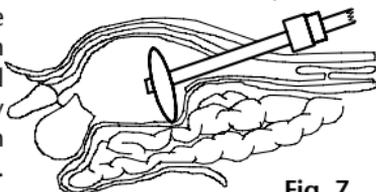

Fig. 7
4. *Structural balloon system:* Place the balloon system with the valve and the black mark on the tube of the balloon system facing up, i.e. pointing away from the abdominal wall. This is the only way to make sure that the structural balloon is correctly positioned for mechanical support of the extraperitoneal space. After having positioned the instrument, connect the insufflation ball pump with its transparent connector to the open plastic valve on the plastic tip of the guide tube. Now the balloon is carefully insufflated through the upward-pointing insufflation valve by means of the insufflation ball pump. To insufflate the PAJUNK® structural balloon system, actuate the ball pump max. 3-4 times as required, taking into account the anatomical conditions; monitor the process continuously via an endoscope. Insufflation of the balloon results in a progressing dissection and anchoring in the extraperitoneal space (see fig. 7).
Ring-anchor balloon system: After having positioned the instrument, connect the air-filled syringe (syringe see table above) to the plastic valve/check valve on the plastic base of the guide tube. Then fill the ring-anchor balloon carefully by slowly pressing the air-filled piston down (max. filling volume, see table above). After completing the filling process, close the plastic valve at the plastic tip (if any) of the guide tube and remove the syringe from the plastic valve/check valve keeping the syringe piston pressed. While filling the balloon, the ring-anchor expands (see fig. 7).